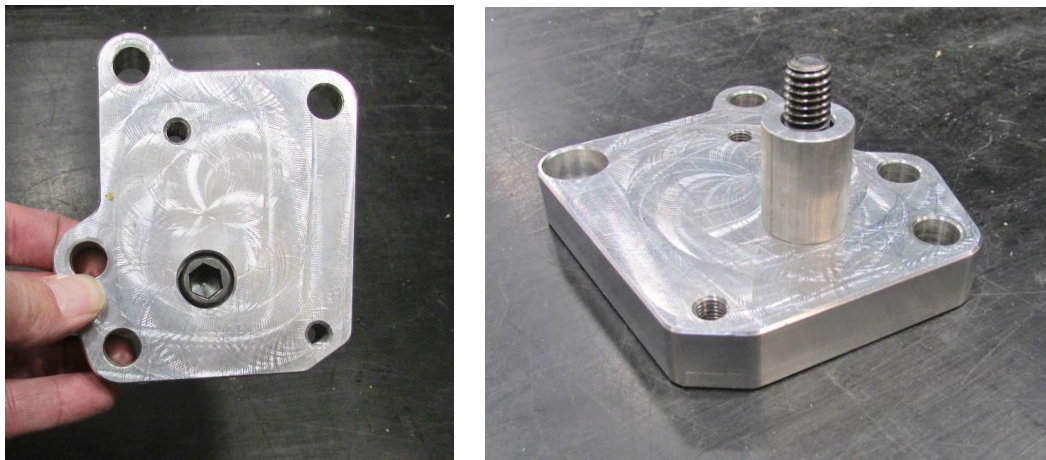

Figure 3 - Install Socket Head Bolt & Spacer
3. Place the provided $7/16$ "-14 x 1-1/2" L socket head bolt through the counter-bored hole located in the center of the pump mount. Place the provided 1.119" L aluminum spacer over the exposed threads of the bolt (Figure 3).